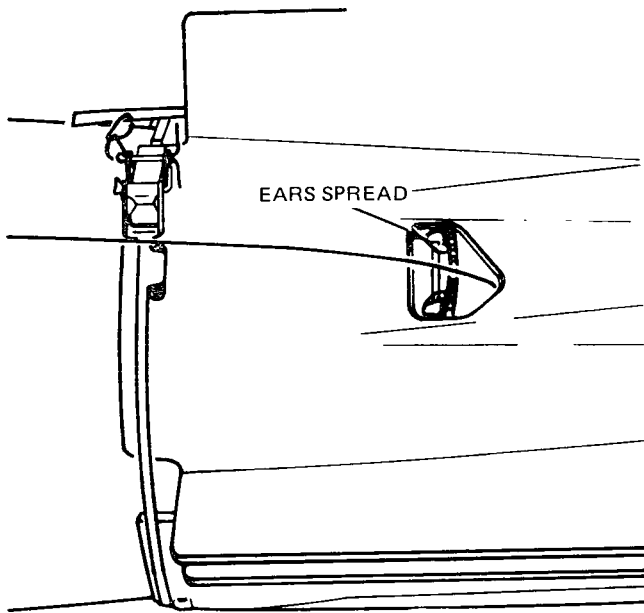

Figure 3-34. Retaining Ring Snapped into Semicircular Groove in Fin Support
14. Allow retaining ring to snap into semicircular groove in fin support (figure 3-34). This locks fin to bomb body.